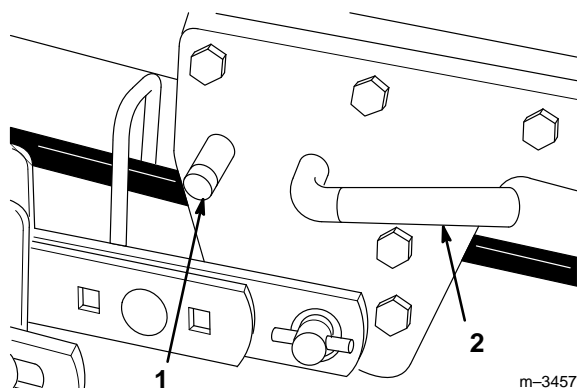

Figure 21
8. Press the button of the mid Attach-A-Matic™ and twist the lever clockwise to release the mower (Fig. 21).